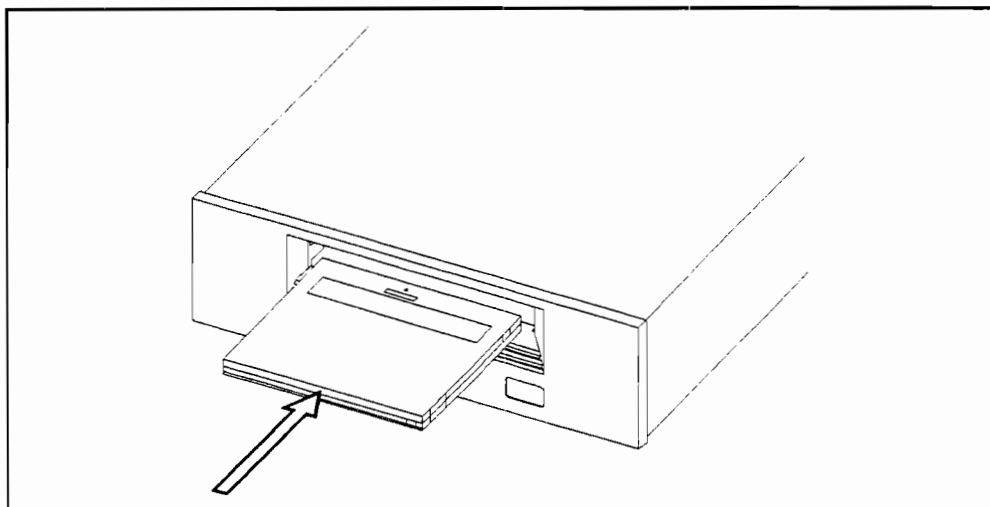

Figure 4-3. Loading a Cassette
1. Insert the tape cassette squarely into the slot in the front of the drive. Make sure that the label is facing uppermost, then follow the arrowhead on the cassette case. Only *minimum* force is necessary when doing this. *Do not* restrain the cassette when pushing it into the drive because it could cause it to jam in the mechanism. The drive will automatically eject an incorrectly loaded cassette after 10 seconds. See Figure 4-3.
2. Locate the cassette squarely in the slot (not at an angle). Using single-finger pressure on the rear, center of the cassette will allow the autoloading mechanism to take the cassette and load it into the drive. See Figure 4-3. The loading sequence to thread the tape takes about 25 seconds.